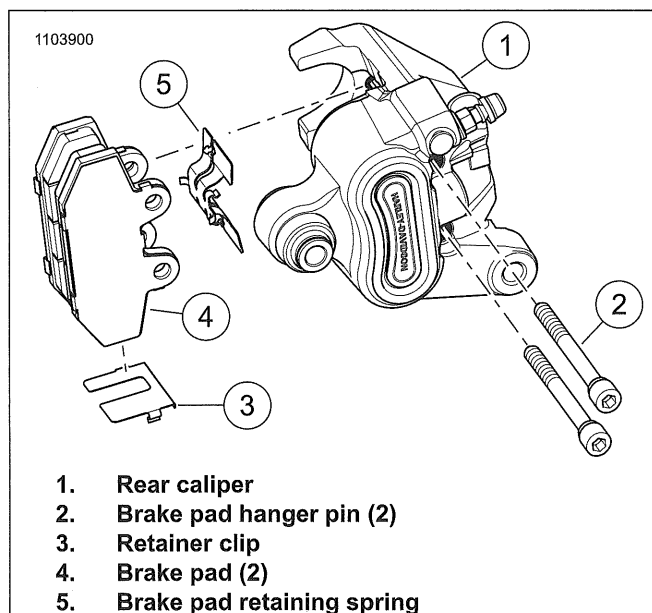

Figure 2-19. Rear Brake Pads
1. See Figure 2-19. Remove rear caliper (1). See REAR BRAKE CALIPER (Page 3-46).
2. Remove brake pad hanger pins (2).
3. Remove brake pads (4).
6. Inspect brake pad retainer spring (5). Replace if needed.
7. See Figure 2-19 and Figure 3-50. Remove retainer clip (3) from rear caliper mounting bracket.
1. See Figure 2-19. Install brake pad retaining spring (5).
3. Install brake pad hanger pin (2). Hand tighten.
4. See Figure 2-19 and Figure 3-50. Install **new** retainer clip (3) onto rear caliper mounting bracket.